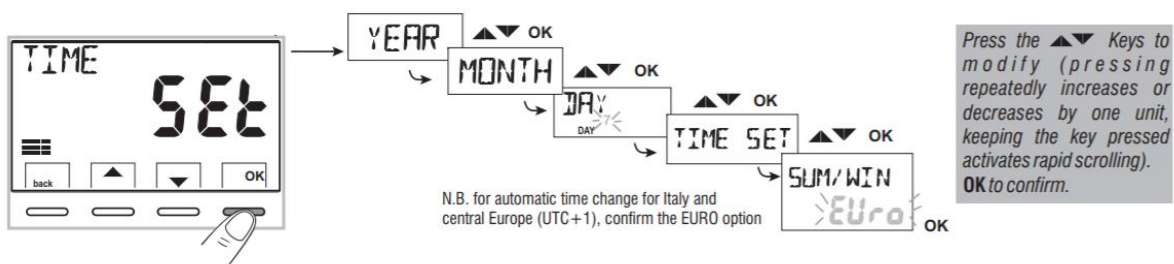

Figure 2.7
2. Once you have selected the language, the unit requires the date & time. Select **OK** to confirm and the ▲▼ keys to scroll through the options/settings. (See Figure 2.7)